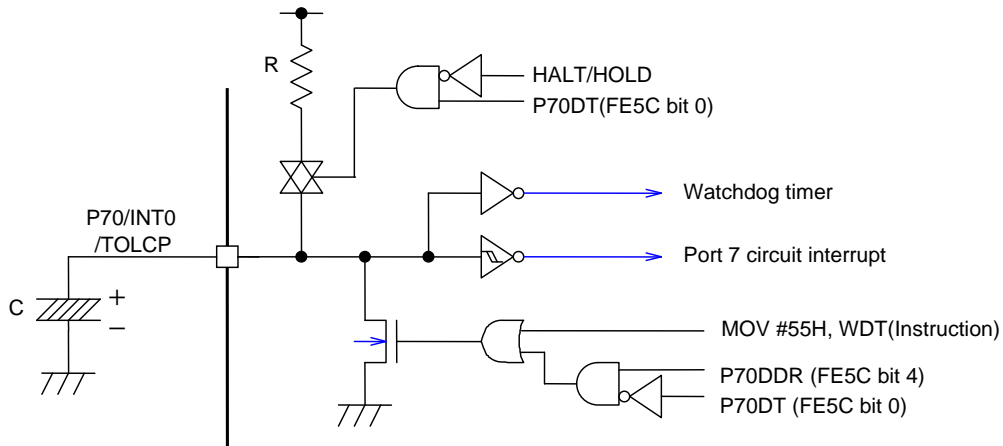

Fig. 4.6.3 Sample Application Circuit with a Pull-up Resistor
- 3) The external resistor to be connected to the watchdog timer can be omitted by setting bits 4 and 0 of the control register P7 (FE5C) to 0, 1 and connecting a pull-up resistor to the P70/INT0/T0LCP pin (see Figure 4.6.3).